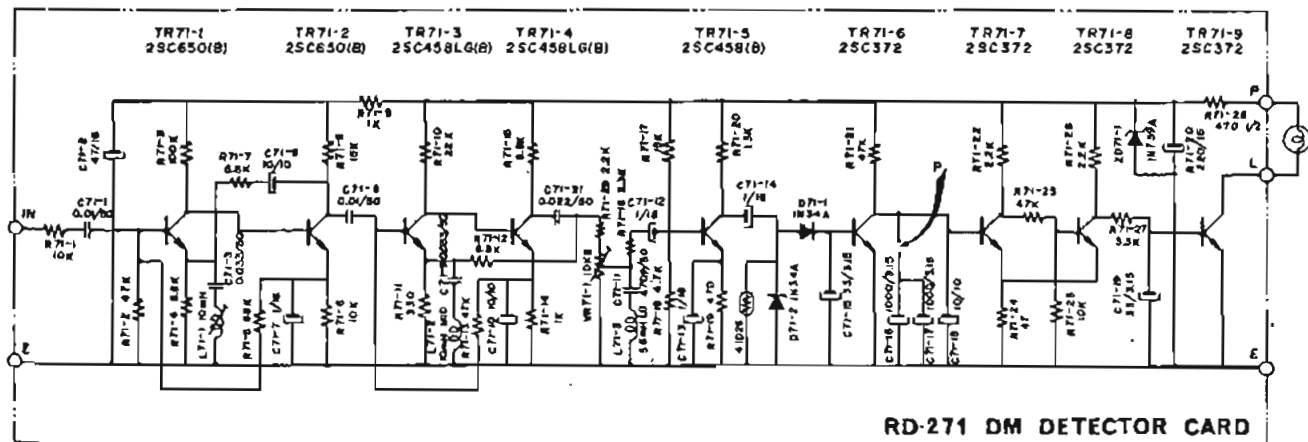

Fig. 5
- a) Before adjustment, remove the solder at point P (Time Delay circuit of 15 seconds) which is shown in Figs. 5 and 6.
- f) Solder Point P as shown in Figs. 5 and 6. After soldering, the DM Indicator Lamp should light after 15 seconds following the stoppage of input signal to the DM Detector circuit.